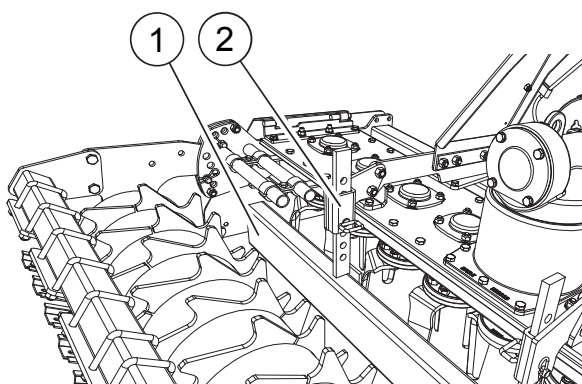

FIG. 24
To level and crumble the soil to a greater degree, the harrow has a levelling bar (1, "Fig. 24") positioned behind the tines. It can be adjusted in height by pins (2). Make the adjustments by keeping the bar at the same distance from the soil as far as possible. Avoid using the bar at depth as it could be damaged. It is recommended to start working with the levelling bar in a high position. Set gradually the position of the bar until the desired position is reached.